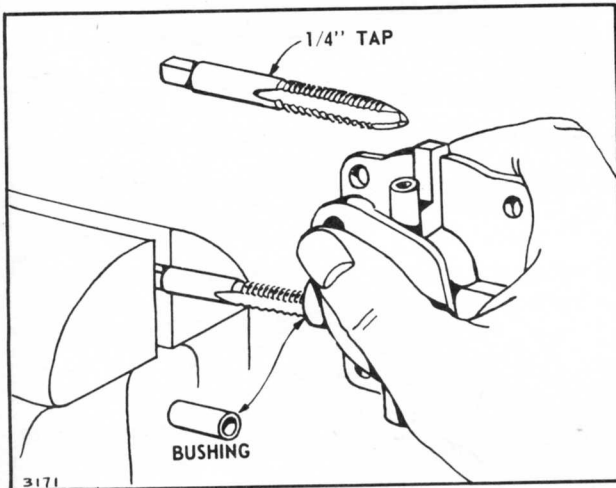

FIGURE 3-6
2. Turn the tap or tool into the bushing by turning the carburetor body as shown in figure 3-6.